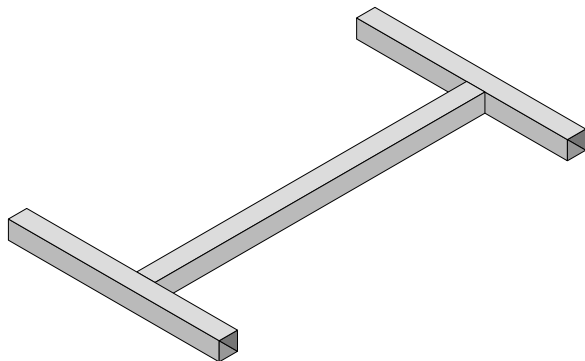
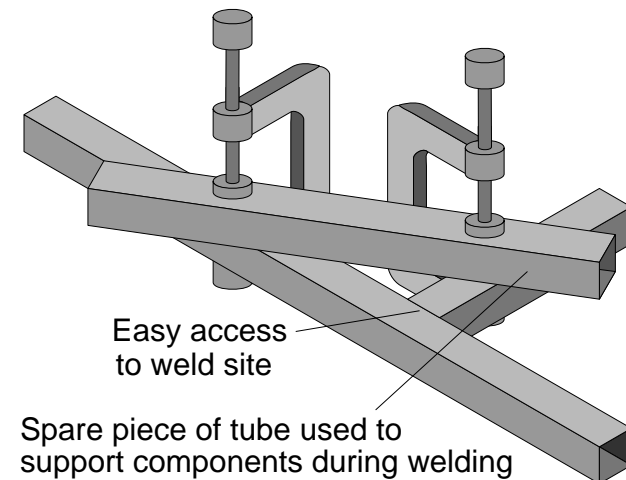

Figure 2: an H shaped centre frame.
Figure 3: supporting components during welding.
- 3) Next make up the two H shaped central frames which will support the axle. Figure 2 shows one of these. Figure 3 shows how two pieces of square tube may be held in the right place when welding. Once you have made one frame, make the other the same by welding it on top of the first.